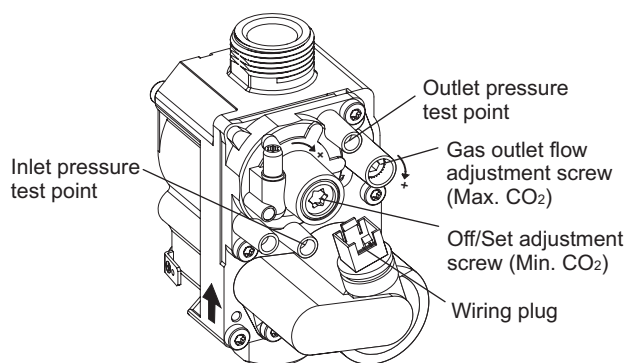
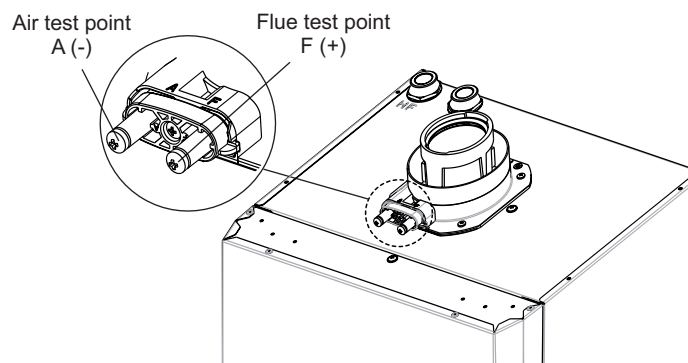

Fig. 6.2
Fig. 6.3
The air gas ratio of the boiler has been factory-set and should not require adjusting during commissioning. If adjustment is recommended or required the engineer must be competent to carry out this work. See Fig. 6.3 for analyser test point.
Insert the analyser probe into the flue test point (Fig. 6.3) and check that the CO2 value is as specified in Section 3.1, otherwise adjust the screw (Fig. 6.2). To increase the CO2 value, turn the adjustment screw (Fig. 6.2) in a clockwise direction and vice versa to decrease it.
When you finish the maximum CO2 adjustment, while maintaining the chimney sweep function active, use the CH control knob to set the output to minimum (0%). Insert the analyser probe into the flue test point (Fig. 6.3) and check that the CO2 value is as specified in Section 3.1, otherwise adjust the screw (Fig. 6.2). To increase the CO2 value, turn the adjustment screw in a clockwise direction and vice versa to decrease.
Connect the flue gas analyser to the flue gas sampling point as shown in Fig. 6.3.
**Notes:** 1. Prior to servicing, it is recommended that a flue gas analyser is used to measure the performance of the boiler (refer to Fig. 6.3 for the position of the flue sampling point). Refer to Section 6.6 Checking combustion. If the CO/CO2 ratio measured is greater than 0.004 **or** when other checks or comments from the customer have indicated that there may be problems, check the following: